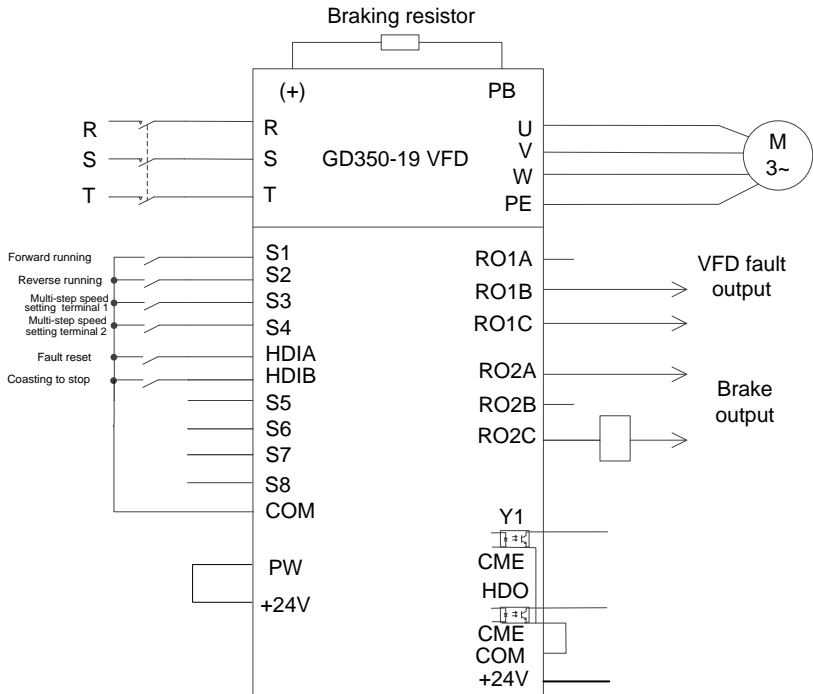

Figure 5.3 Wiring for horizontal moving
**Note:** If the wiring is performed according to Figure 5.3, most VFD parameters need no adjustment. If the onsite function terminals are inconsistent with the terminals shown in the figure, adjust the input and output terminal functions according to the actual wiring after selecting the horizontal moving application macro.